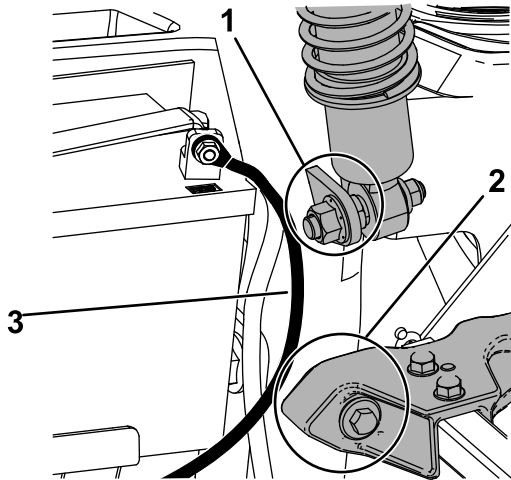

Figure 52
**Note:** For MyRide machines, ensure that the ground cable does not rub against the trailing arm or lower shock mount (Figure 52).